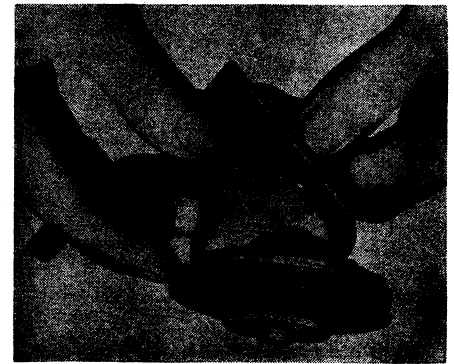

Fig. 14 Series B. Assembling lower cover to pump body
- Bring the lower cover and pump body together, Fig. 14, being sure that the cup of one cap fits around the end of the pull rod and the cup of the other fits around the end of the rocker arm. Install the cover screws and tighten securely.